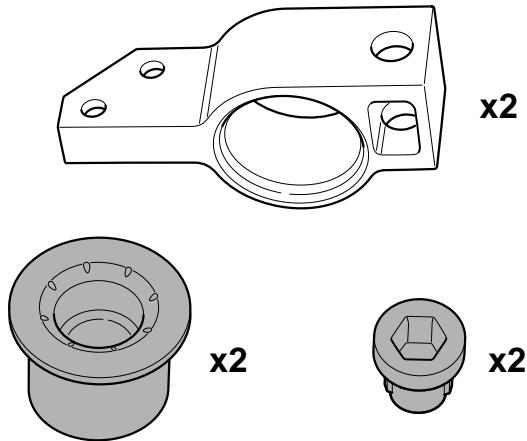
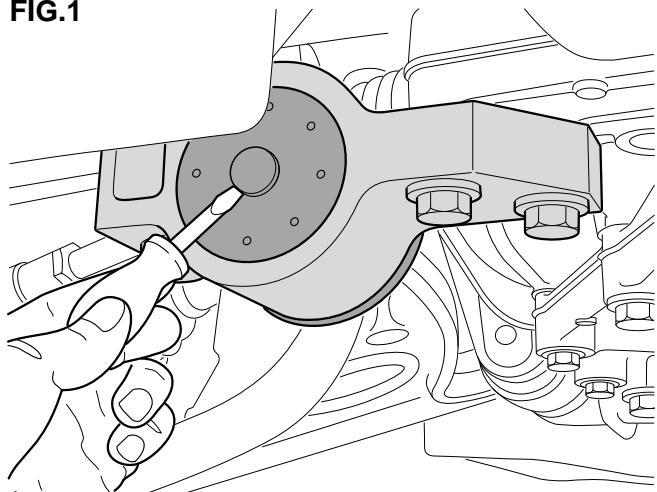

FIG. 1
FIG.2
7. Remove the small centre bush 60316A from the extrusion assembly (refer Fig.1) and press onto the hex spigot using a small amount of the grease supplied.
Note: Failure to release the excess air will make the arm more difficult to re-install as the mounting holes will not easily align. (refer FIG 1 + FIG2).